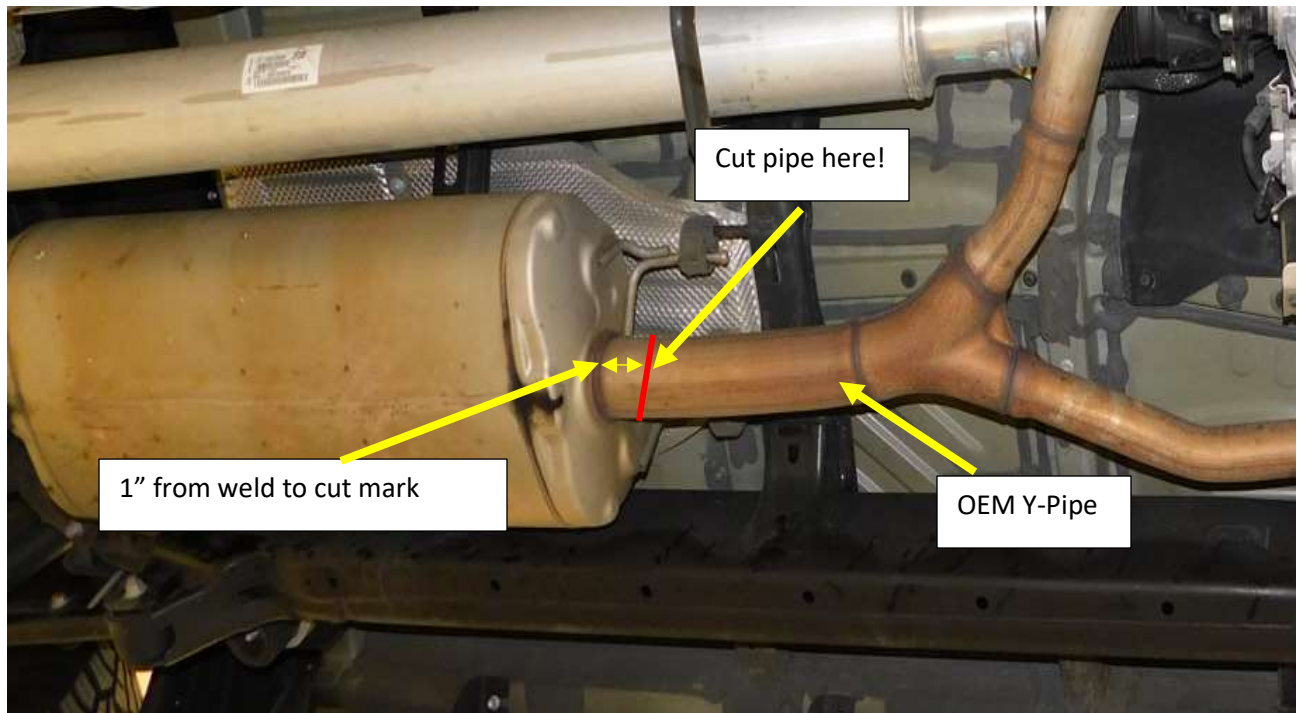

Figure 1
1. Cut the OEM exhaust 1” from the weld on the factory Y-pipe just before the muffler assembly and support the Y-pipe. **Fig.1**